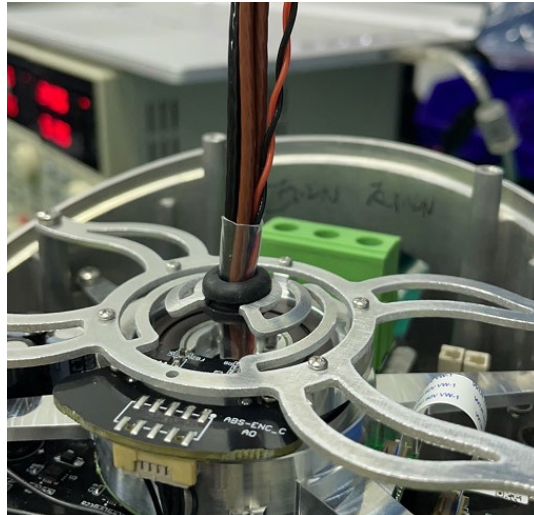

Figure 3-19 Insert the wire guard ring
- Wire guard: put the rubber guarding ring around the wire bundle, and push it all the way down to around the heat shrinking tube. Then put the wire guard ring on the wire rack as shwon in Figure 3-19: